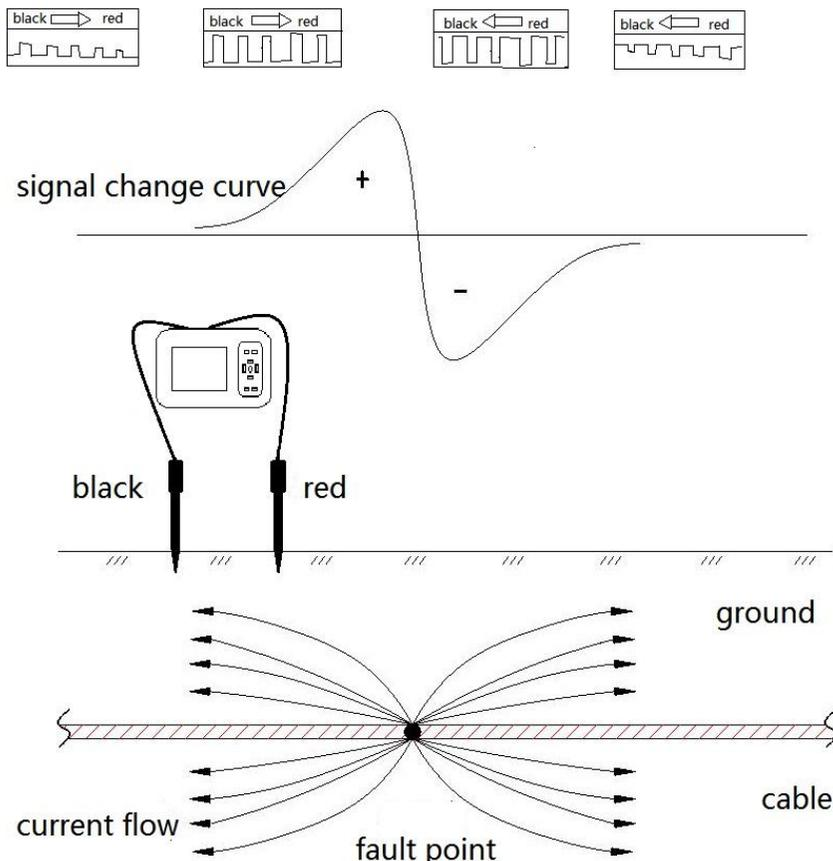

Fig.8 Step voltage pinpointing reference
process is shown in Figure 8.
3.2.4 HV signal rod Fig.8 Step voltage pinpointing reference pinpointing